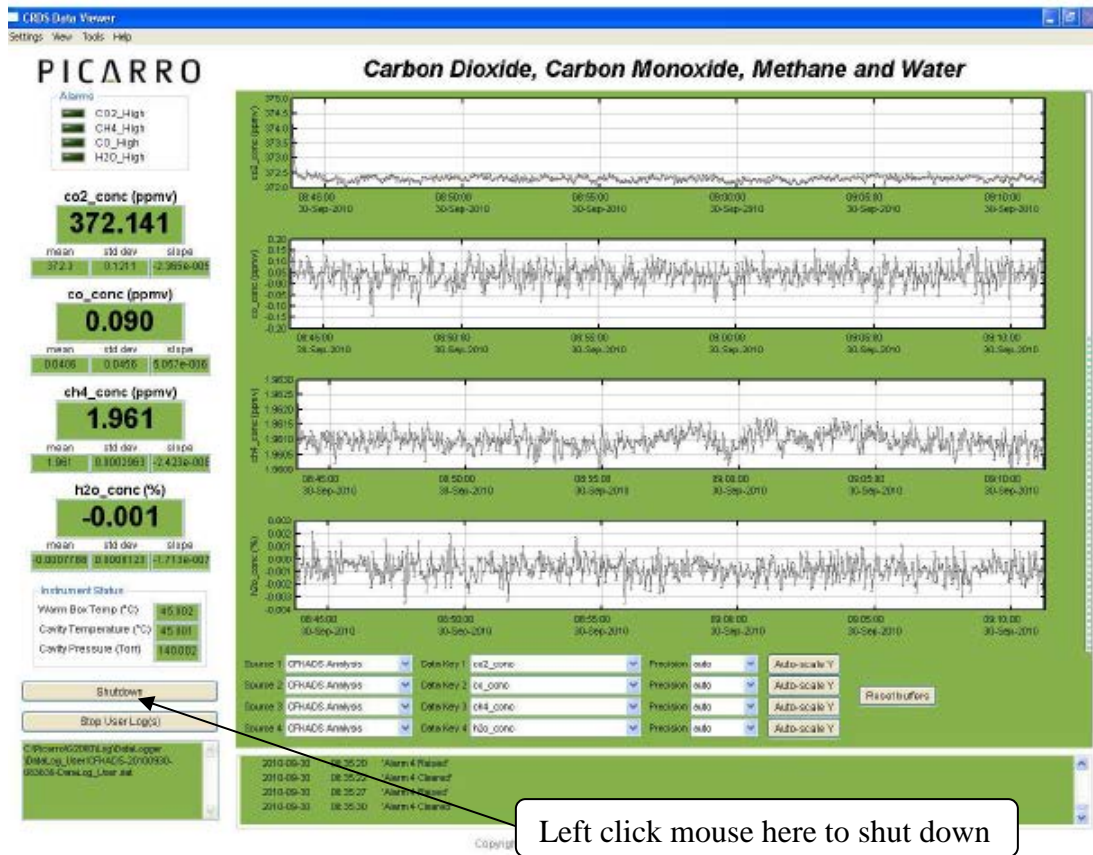

Figure 6. Shutdown Procedure.
- 2.6.3.1 Method A (recommended): Place the computer mouse onto the bar labeled "Shutdown" on the G-2401 trace gas analyzer window and left click the mouse (Figure 6).